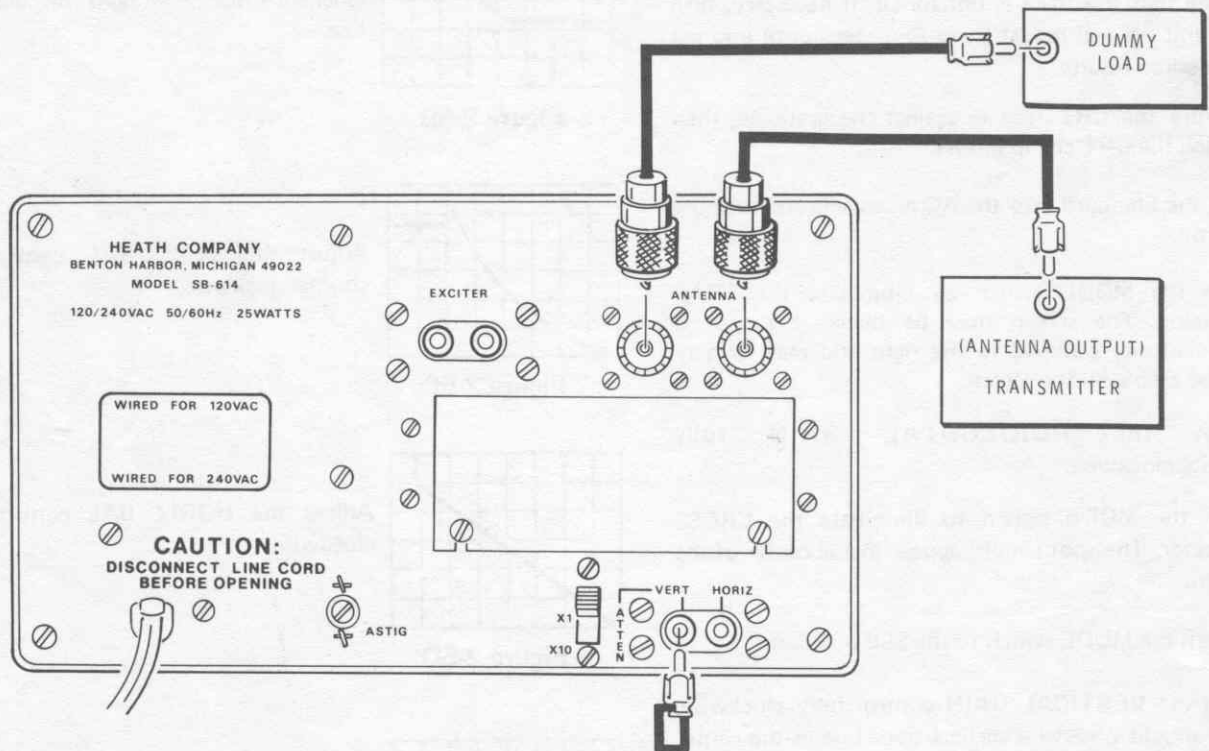

Figure 3-1
- ( ) Refer to Figure 3-1 and connect the transmitter output to the Station Monitor as shown. Connect a 50  $\Omega$  dummy load to the remaining open ANTENNA jack on the rear of the Monitor.